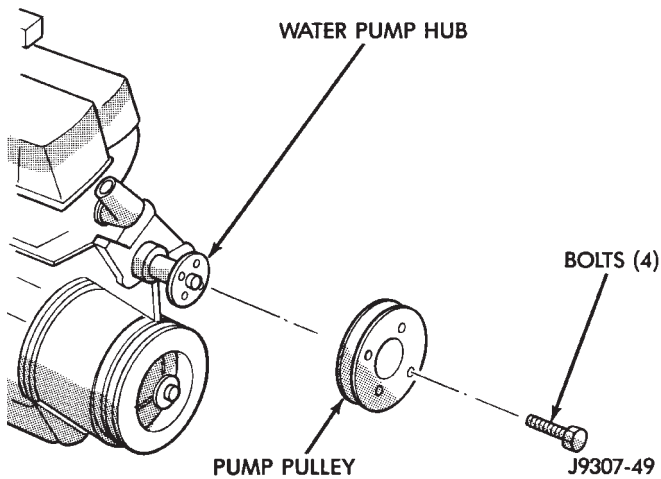

Fig. 24 Water Pump Pulley Bolts
(1) Disconnect negative battery cable at battery.
(2) Drain the cooling system.
(4) Loosen (but do not remove at this time) the four water pump pulley-to-water pump hub mounting bolts (Fig. 24).